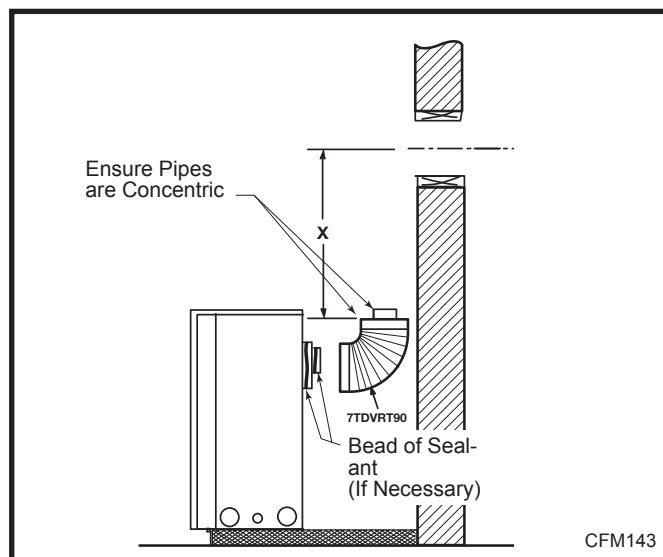

Fig. 24 Apply sealant to inner and outer pipe.
Apply a bead of high temperature sealant to the inner and outer flue collars of the fireplace and using appropriate venting component(s) attach to fireplace with three (3) screws. (Fig. 24) Follow with the installation of the inner and outer elbow. Again, secure joints with three (3) sheet metal screws. Wipe off any excess high temperature sealant.